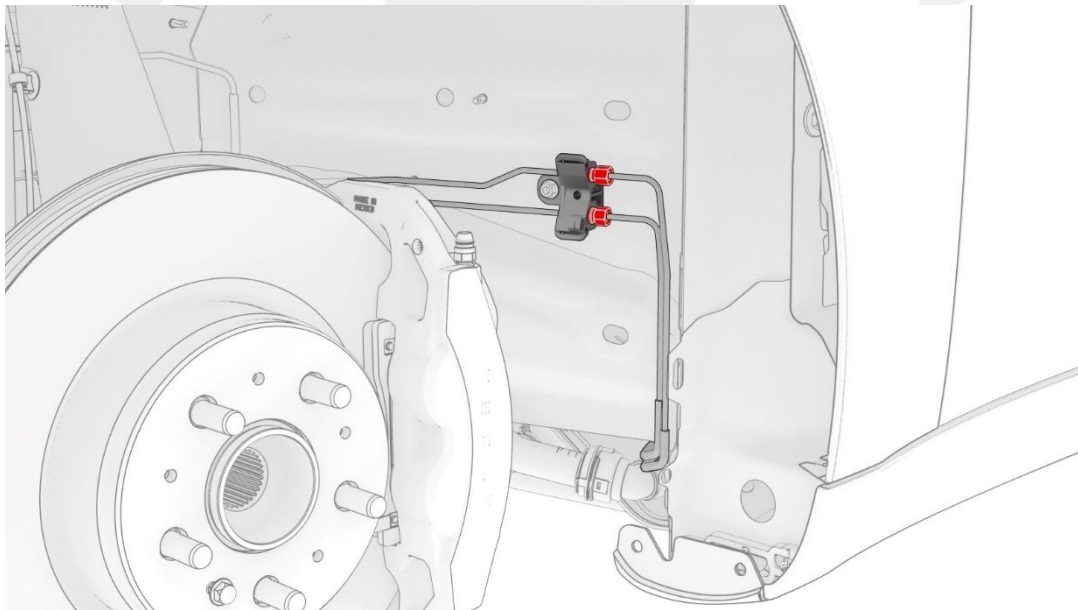

Figure 7
11. Install the LH side sill brake lines (x2) into the LH front brake junction block, and then fasten the nuts (x2, 12 mm, Torque 16 Nm) that attach the brake lines to the brake junction block (Figure 7).